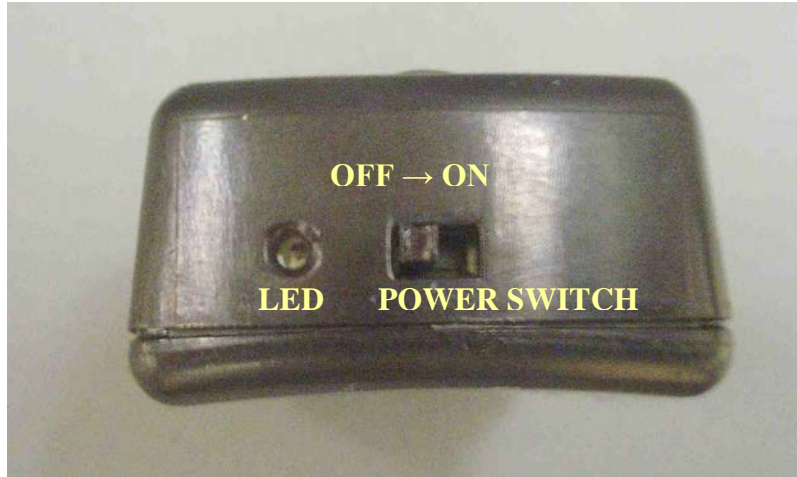

Figure 1-27: Marker Power Switch and LED
1.3.3.1 Find the small power switch on one end of the marker (Figure 1-27). Slide it ON (away from the LED) and observe that the LED power indicator next to the switch illuminates *briefly*, indicating that the marker is live. The LED illuminates only briefly to conserve power. A fully charged standard battery should operate for up to 2 continuous hours. A fully charged extended marker battery should operate for 6 hours or more.